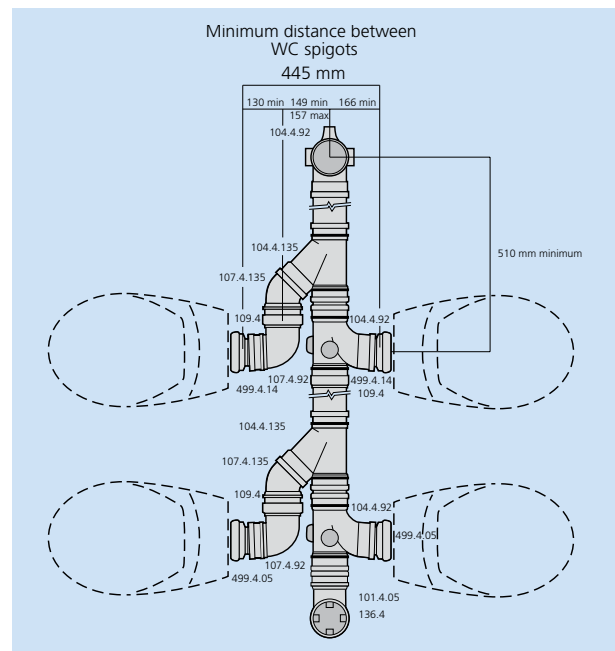

Fig. 78
- Alternatively, use staggered layout, as shown in Fig. 78.